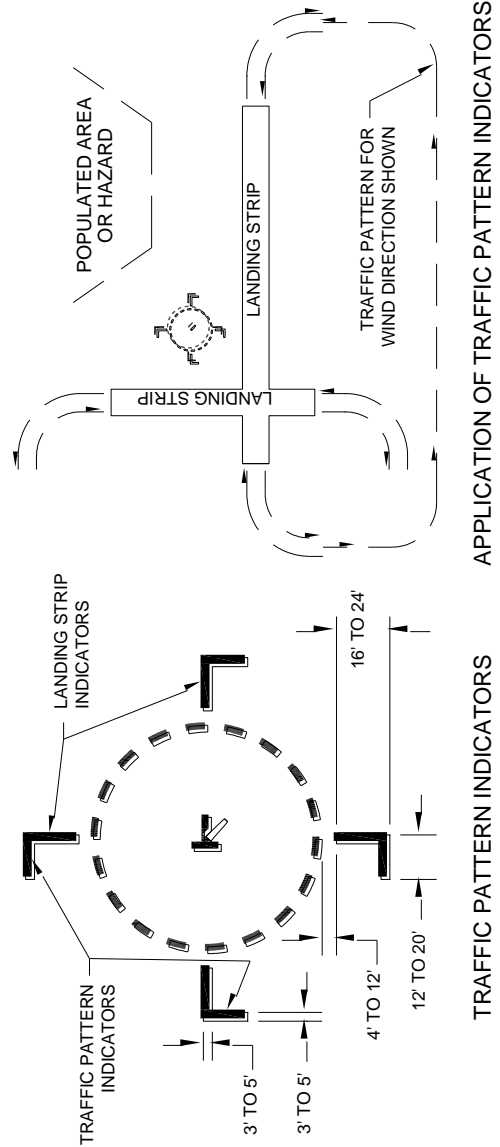

Figure 1. Segmented Circle Marker System
be used, the purpose they must serve, and their construction and installation must be as described below and shown on Figure 1.
(2) **Wind Direction Indicator.** Install a conventional wind direction indicator as shown in Figure 1, to be used as the wind direction indicator.
(3) **Landing Direction Indicator.** When conditions at an airport warrant its use, install a landing direction indicator, as shown in Figure 1, for the purpose of showing pilots in the air and on the ground the direction in which landings and takeoffs are to be made. This indicator may be so designed that it can be made free-swinging when left unattended.
(4) **Landing Strip Indicators.** Landing strip indicators are used to show the orientation of landing strips and/or to give a positive indication of the strip specified for use. When used, they must be arranged in pairs as shown in Figure 1.
System”, Figure 1, and in a diagram showing the application of the system to the particular airport on all airport bulletin boards.